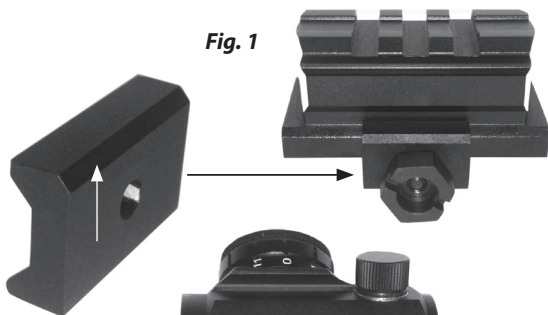

Fig. 2
3. Ensure that the riser's cross screw with nut is tightened to clamp it firmly to the weapon's rail (*Fig. 2*). Turn the large nut on the riser block $\frac{1}{4}$ to $\frac{1}{2}$ turn with a coin, screwdriver or $\frac{1}{2}$ " wrench. **WARNING! Do not over tighten.**